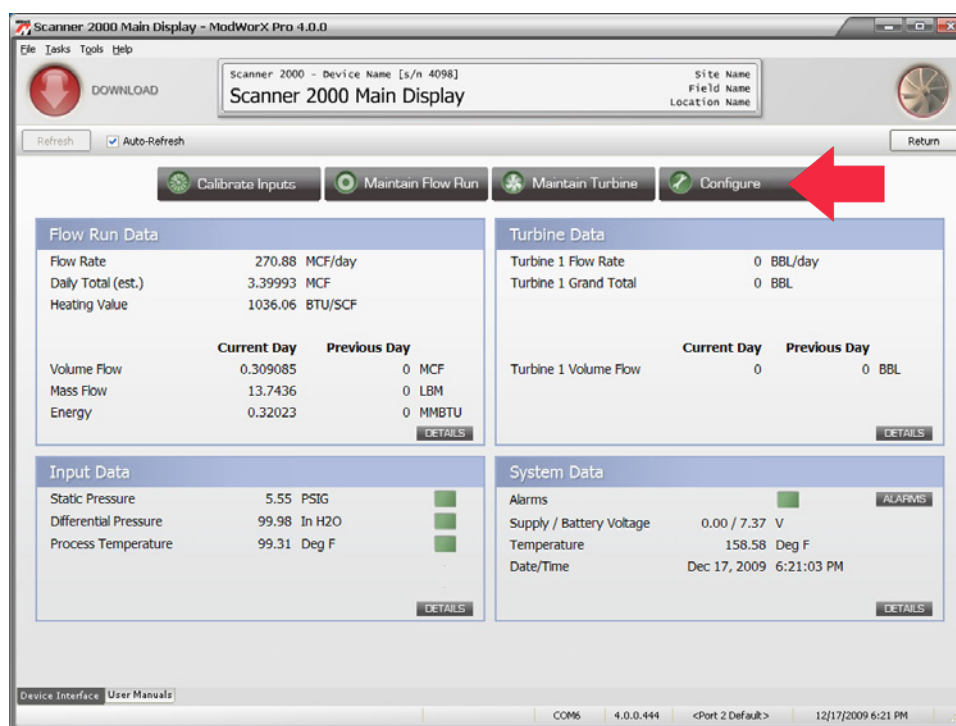

Figure 4.1
1. Click on the **Configure** button in the task menu bar on the Main Display screen (Figure 4.1).